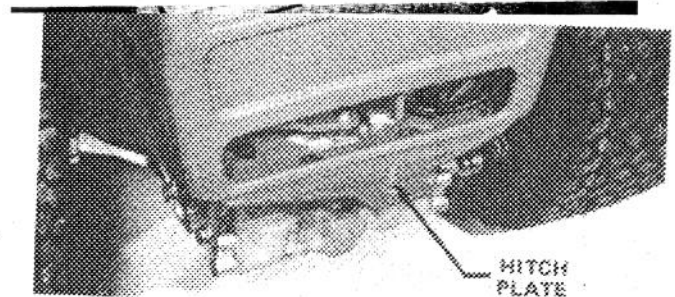

Figure 8
2. Install the locknuts and tighten them to secure the plate to the frame (Fig. 8).